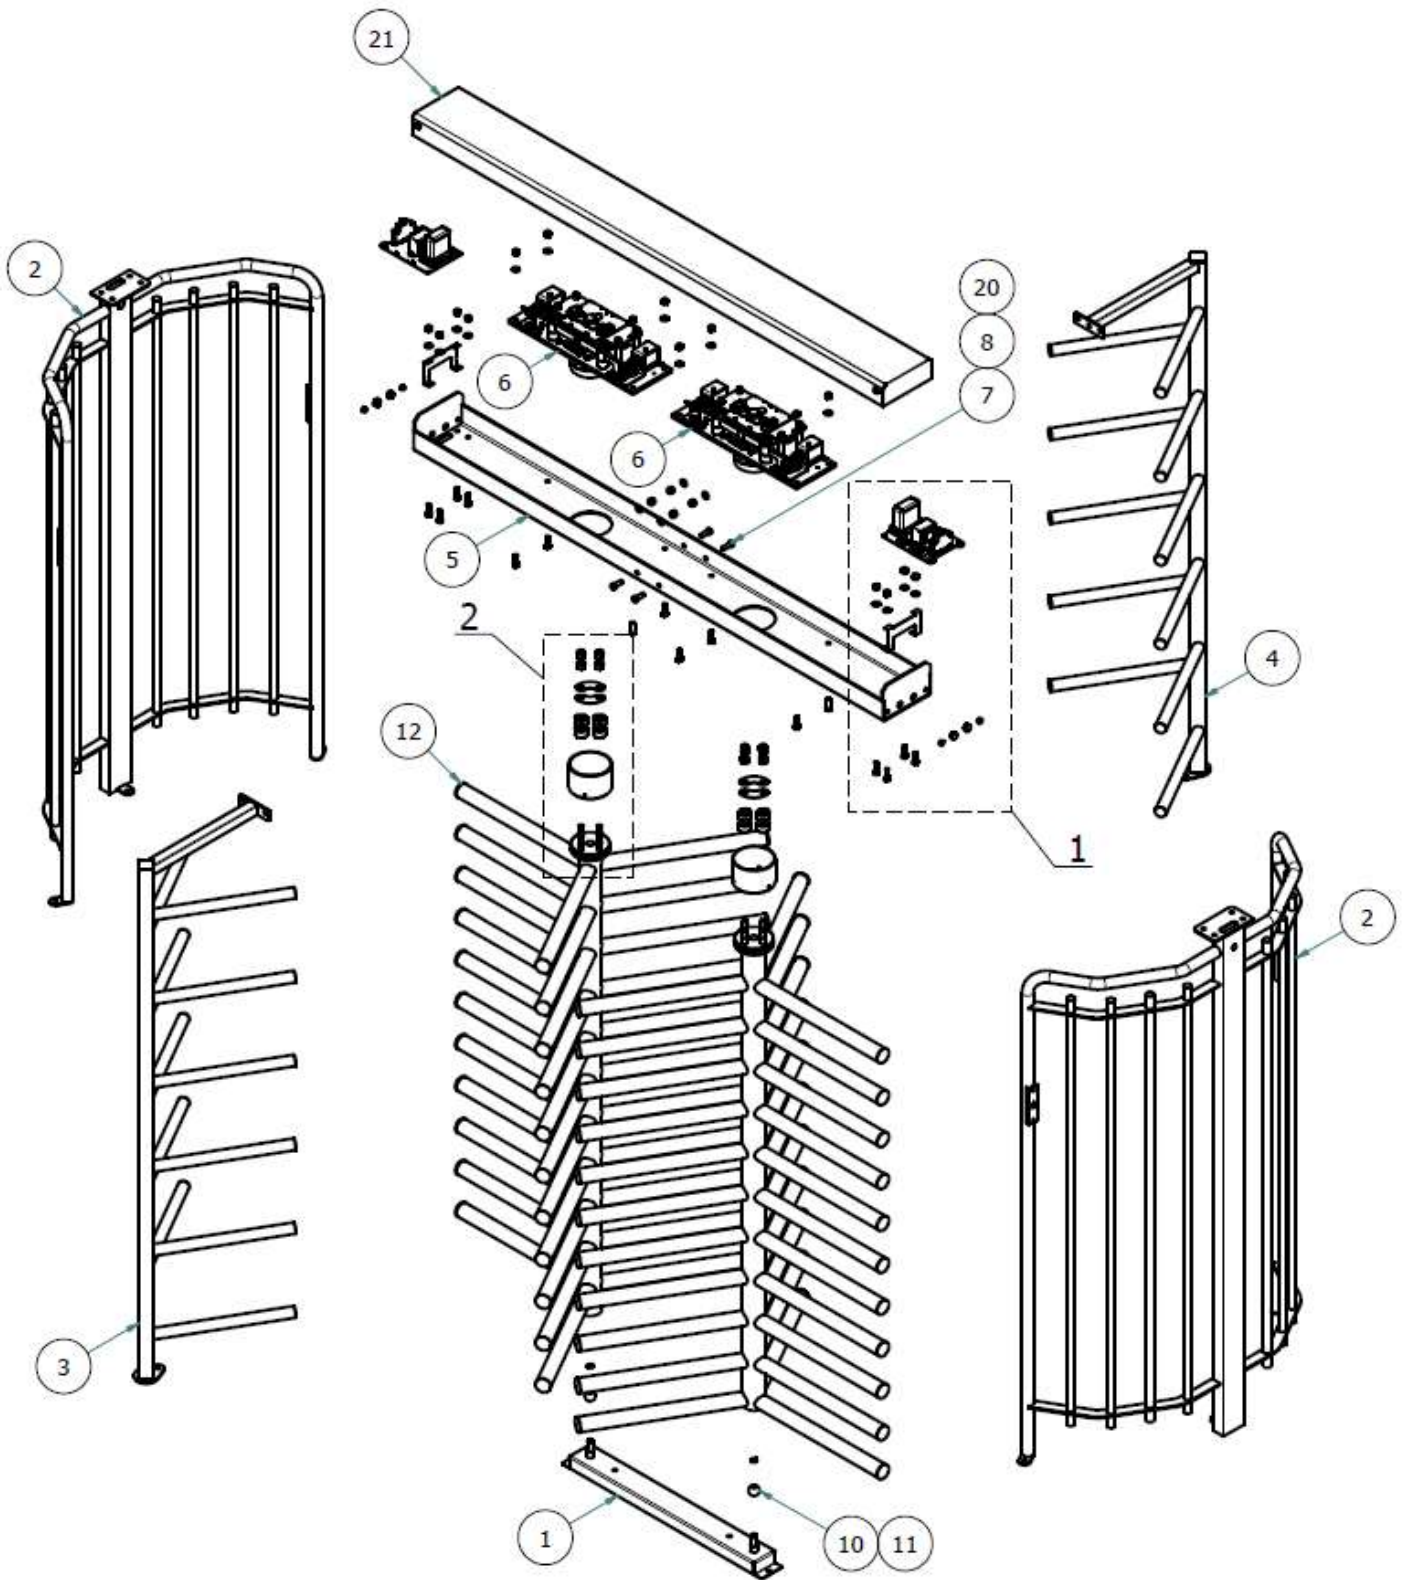

**Figure 13: Single turnstile assembly**
- Single Turnstile Specification: 1430mm long x 1430mm wide x 125mm deep, 20MPa strength concrete. (See Figure 13)